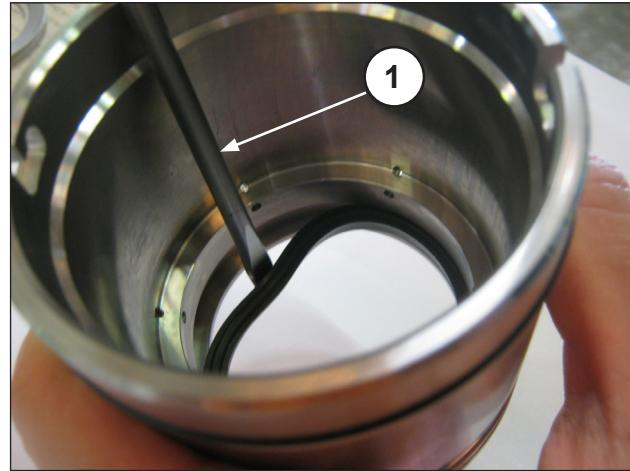

Fig. 164
To remove the low pressure seal, use a thickness gauge or another tool which will not damage the seal support housing (pos. ①, Fig. 164).